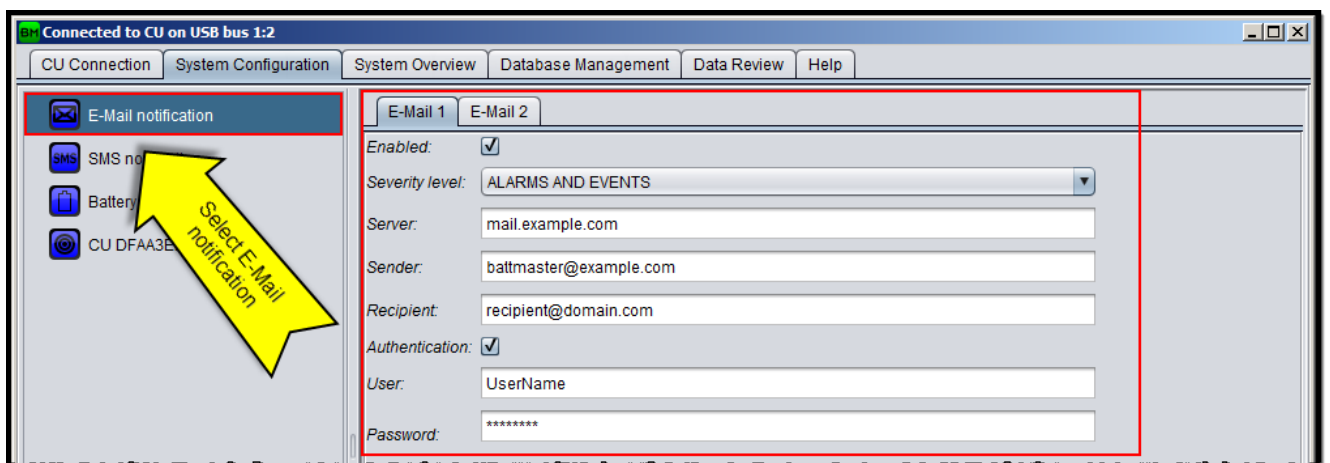

Figure 21: E-Mail notification configuration
- Select E-Mail notification as shown on Figure 21.